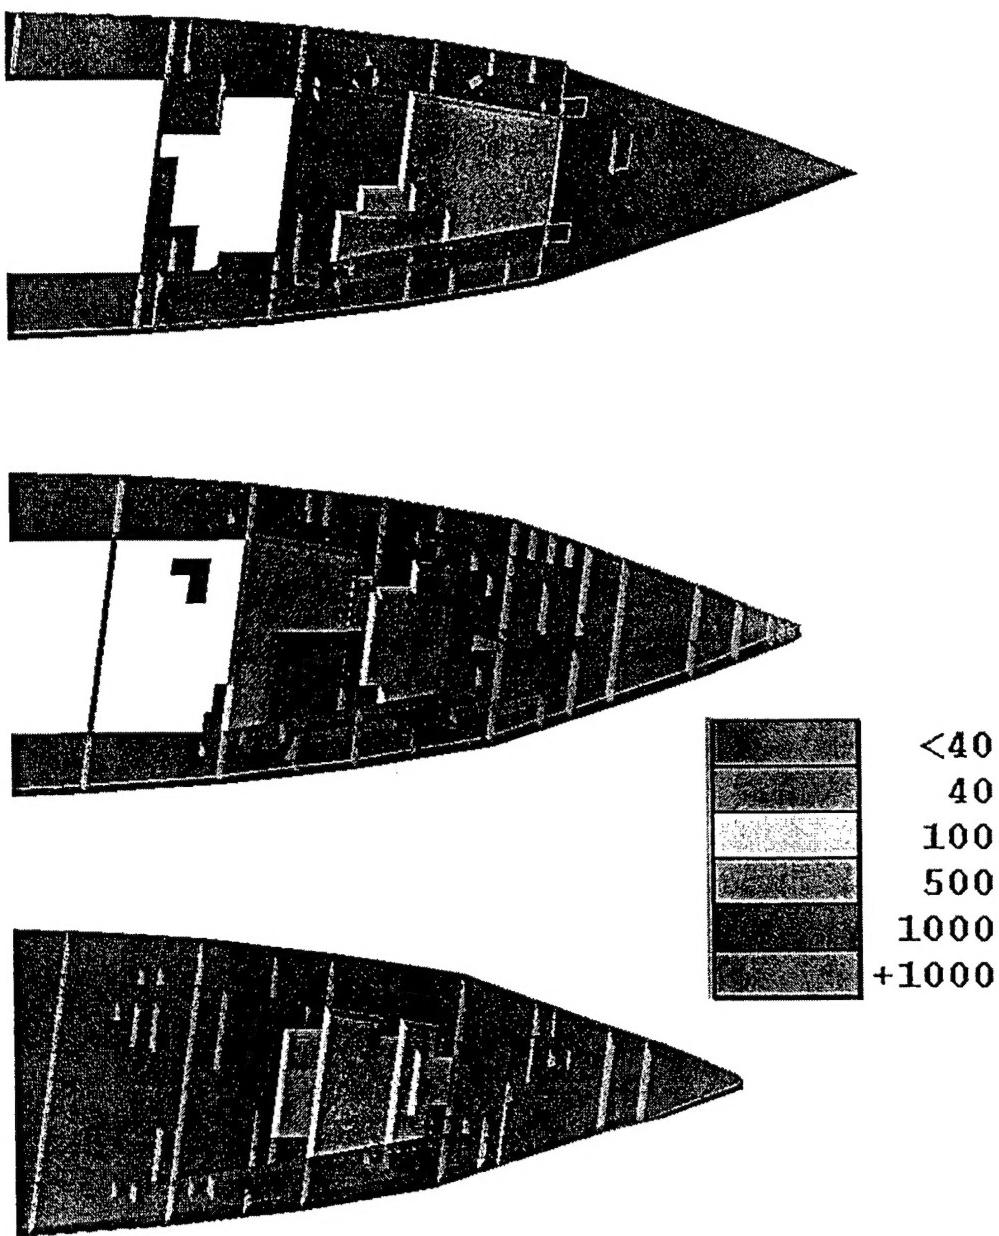
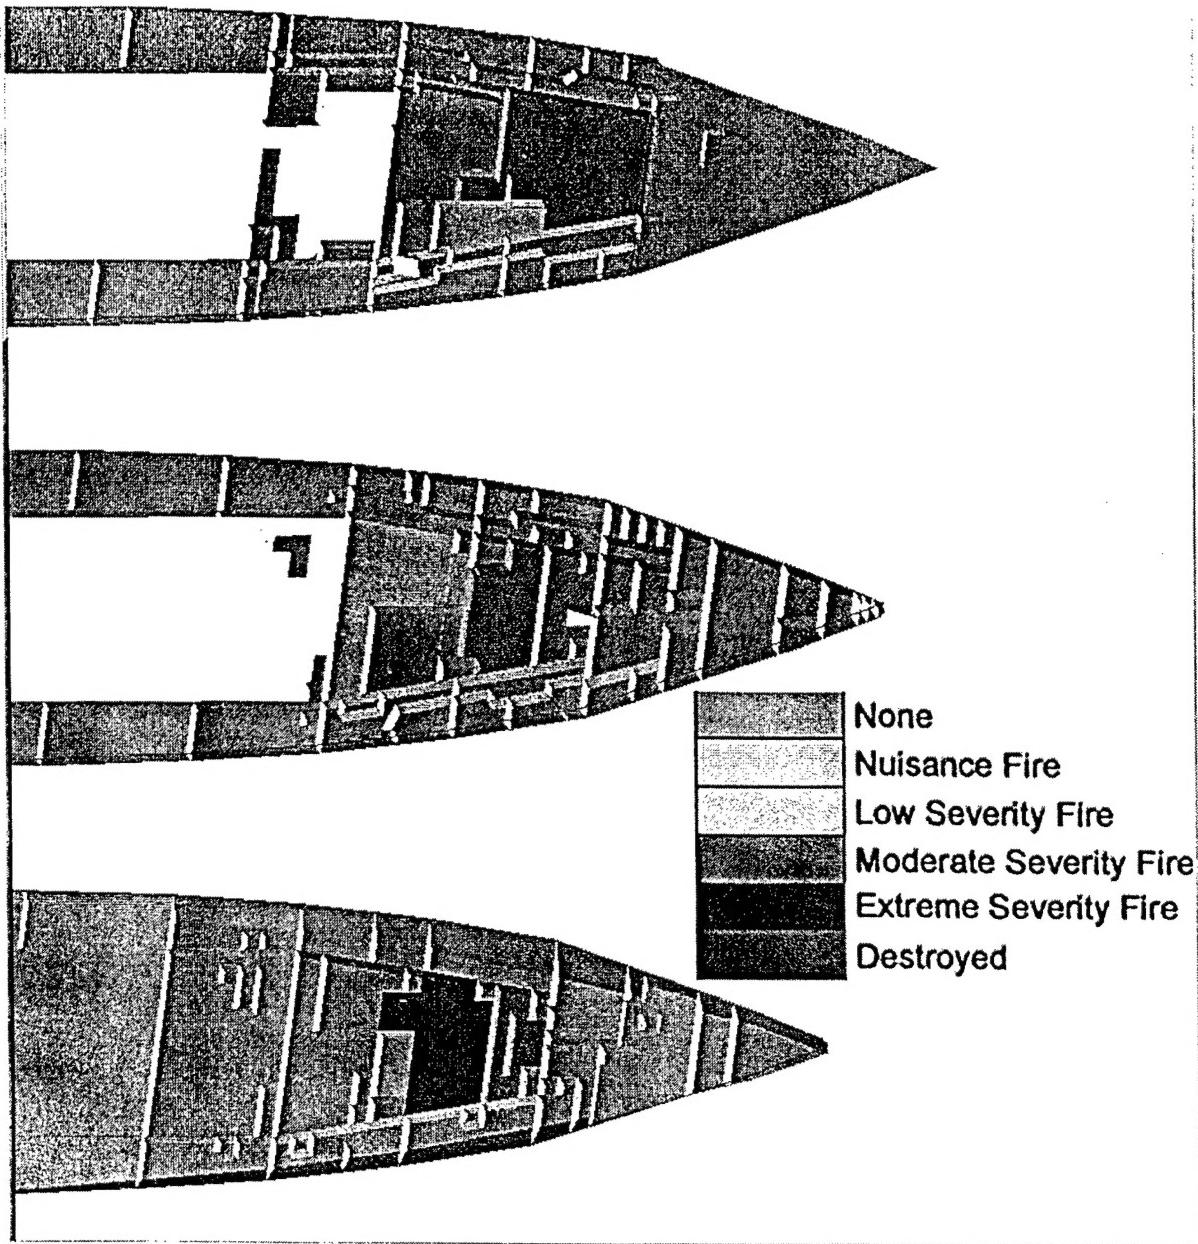

Figure 6. Example of temperature
Figure 7. Example of Classifier
5. Visual modes: **Temperature** (Figure 6), **Classifier** (Figure 7), and **Smoke** (Figure 8). Each one will show its respective color scheme.